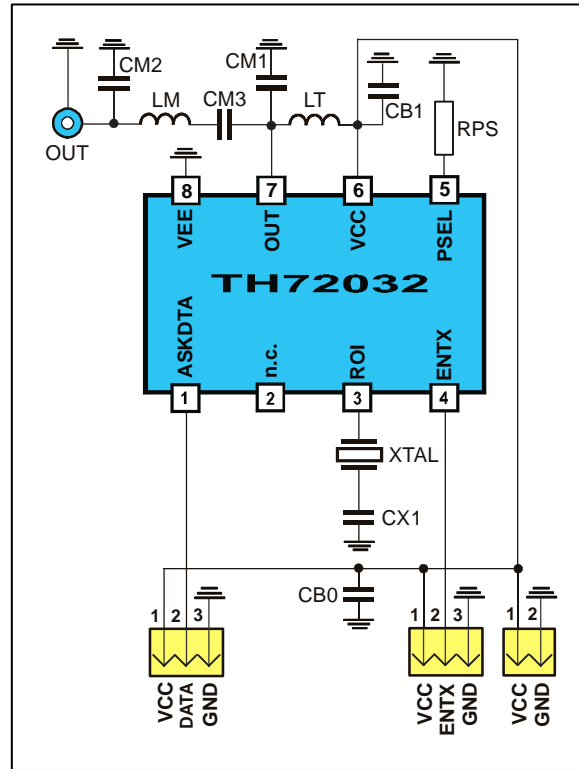

Fig. 17: Test circuit for ASK with 50  $\Omega$  matching network
typical values at  $T_A = 23\text{ °C}$  and  $V_{CC} = 3\text{ V}$ ; test circuit shown in Fig. 17,  $f_c = 868.3\text{ MHz}$
- Data according to test circuit in Fig. 17 (868.3MHz)
### 6.1 Test circuit component list to Fig. 17